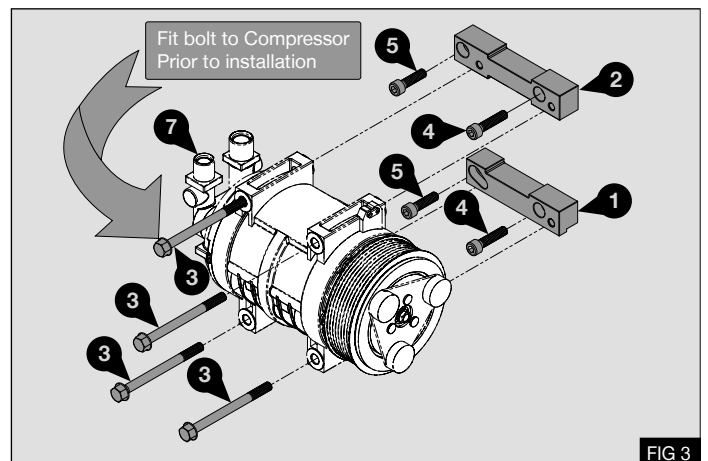

FIG 3
1. Fit the supplied compressor mountings **(1)** & **(2)** to the original mount bracket **(F)** using the supplied cap screws **(4)** M8 x 35 to the front and **(5)** M8 x 30 to the rear - Fig 3
3. Fit the compressor **(7)** using the supplied bolts **(3)** M8 x 100 - Fig 3